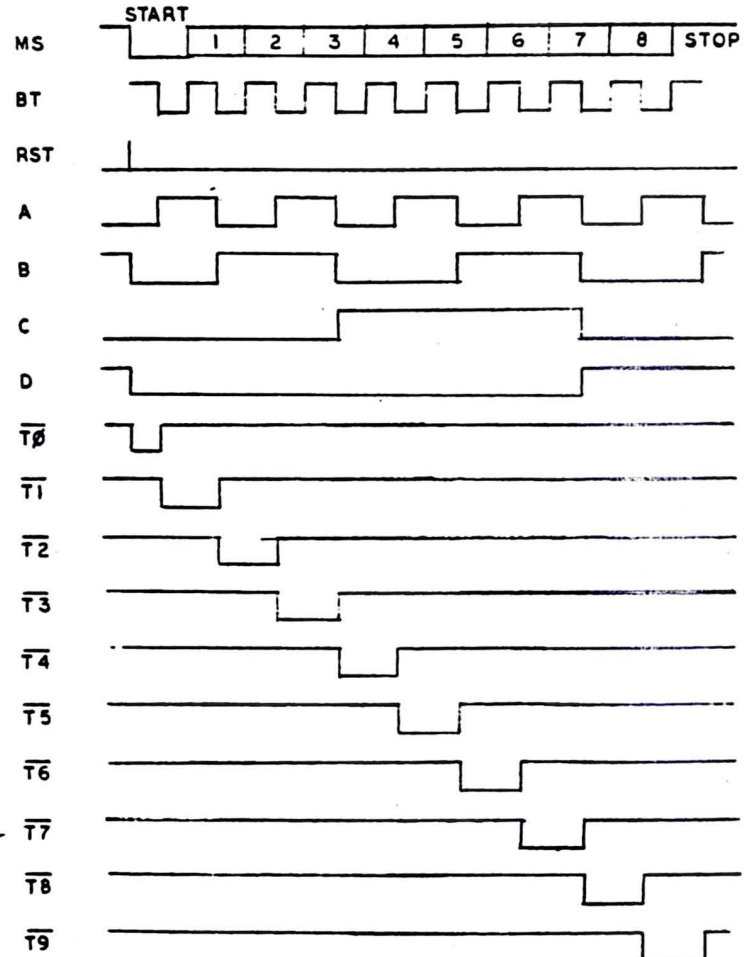

Fig. 21 - Transition Counter Timing
3.41 DC is coupled to the distortion counter circuits (Fig. 32) where it is divided by 100 to produce 1 x bit timing signal BT. BT steps the transition counter (Fig. 32). Each of the ten output lines (T0 through T9) go low during their corresponding transition of data signal MS (Fig. 21). Lines  $\overline{T0}$  and  $\overline{T6}$  through  $\overline{T9}$  are coupled to the sync circuits (Fig. 31).
3.60 In the distortion counter circuits, BT steps the transition counter (Fig. 21). The transition counter output produces a low on each of lines  $\overline{T1}$  through  $\overline{T9}$  during the time of the corresponding transitions (first through ninth) in each character of MS. If, for example, TRANSITION SELECT switch S2 is set to 3, it connects line  $\overline{T3}$  to gate G6 in the transfer circuits. Gate G6 will therefore enable G7 to produce an  $\overline{XFR}$  pulse only during the time of the third transition of each character. Only the third transition of each character can, therefore, initiate a transfer pulse. The MODE switch may be set to either PEAK, BIAS, or END.